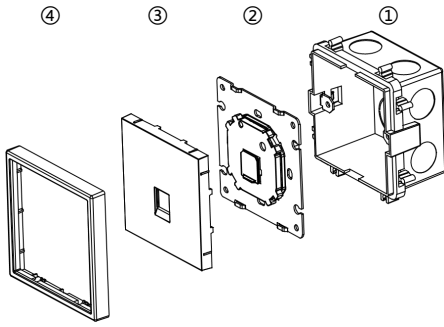

Figure 4. Installation
**Installation - See Figure 4**
Installation	Wall box (See Figure 4)